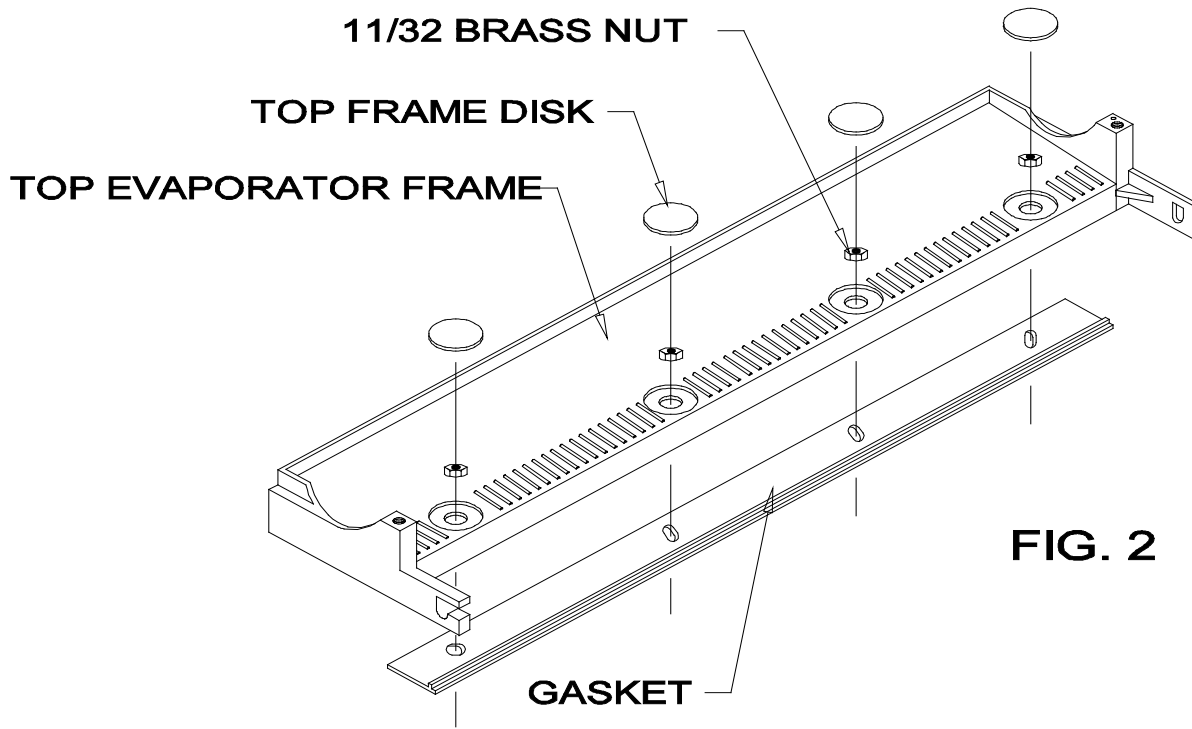

FIG. 2
4. Remove all four 11/32" brass nuts; lift top evaporator frame and gasket from evaporator (Fig. 2).